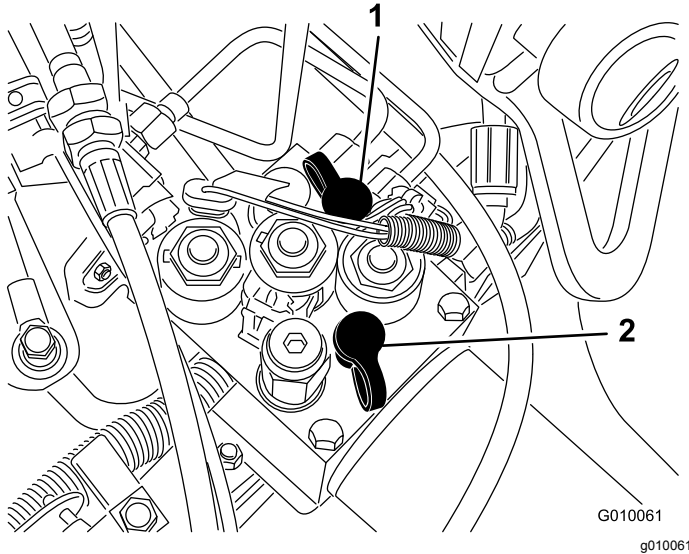

Figure 64
- Test Port G 2 (Figure 64) is used to assist in trouble shooting the traction charge circuit.
- Test Port G 1 (Figure 64) is used to assist in trouble shooting the lift circuit pressure.